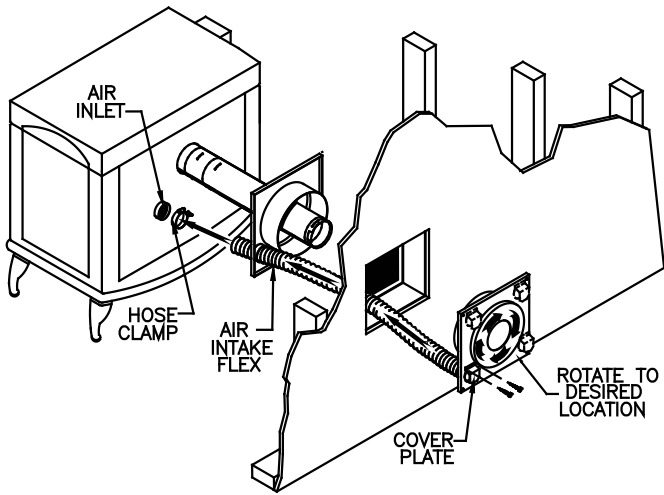

Figure 12
- B. Cut and frame a square opening in the wall as specified in **Table 1**. PelletVent Pro now offers the standard Wall Thimble or Wall Thimble Air Intake Kit for through the wall installations. The Air Intake Kit allows combustion air to be drawn through the framed Thimble opening, eliminating the need to cut another opening in wall. The small flex provided with this kit allows connection to the Pellet Stove combustion air inlet. Loosely assemble both halves of the Wall Thimble onto Pipe Section. Connect the flexible hose with clamp to the exterior half of the Wall Thimble. Guide the flex through the opening in black interior half of Wall Thimble, gently pull the flex towards appliance (**Figure 12**), and if necessary trim excess flex to required length with snips. Secure flex to combustion air inlet